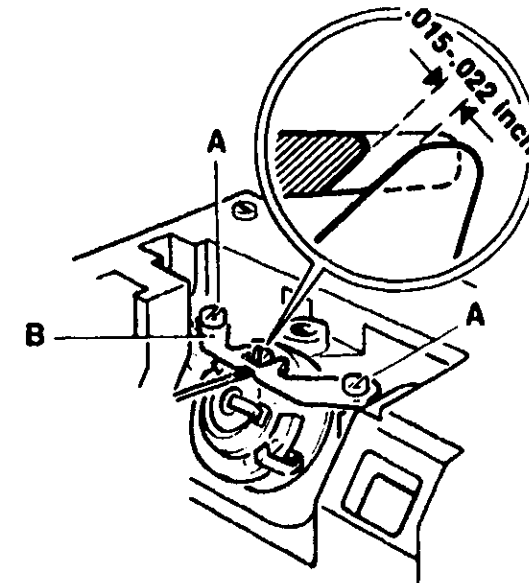

FIGURE 24
- To check clearance, use wire feeler gauges (Figure 24). The .015 gauge should enter clearance and the .022 gauge should be too thick to enter.